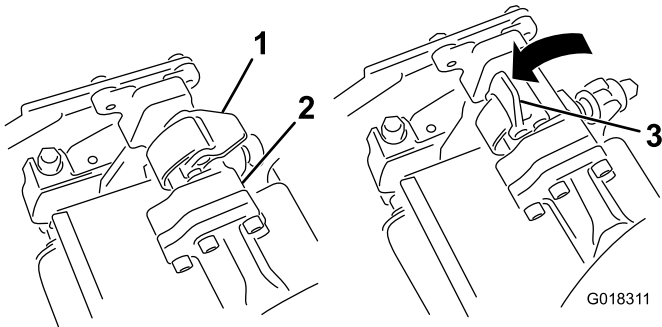
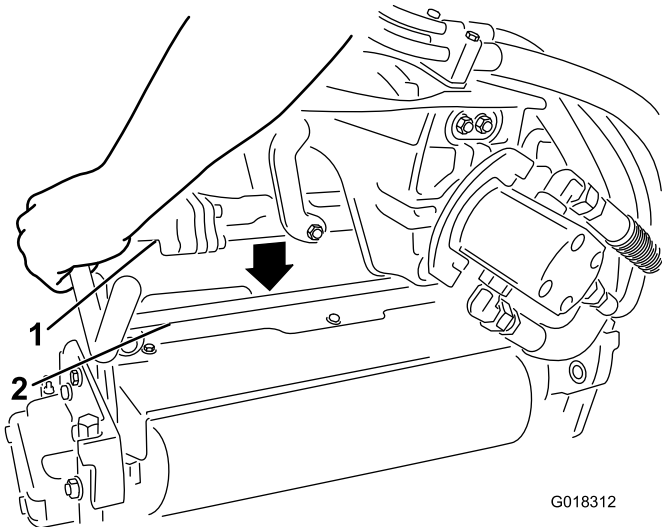

Figure 1
Figure 2
2. With the latches on the suspension-arm bar pointing up (i.e., Open)(Figure 1) push the suspension arm down so that the bar fits over the bar across the top of the tri-roller unit (Figure 2).
3. Close the latches down and around the tri-roller unit and lock them in place (Figure 1).